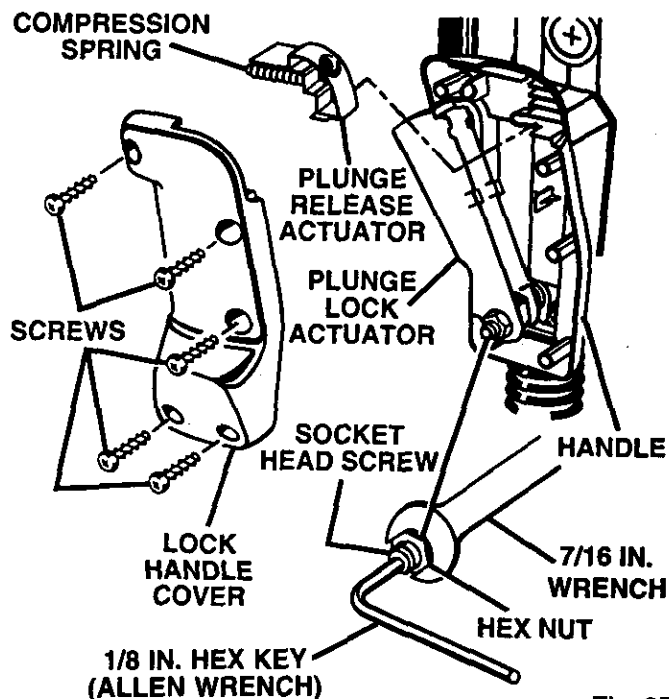

Fig. 25
See Figure 25.
- Remove lock handle cover screws and lock handle cover. See Figure 25.